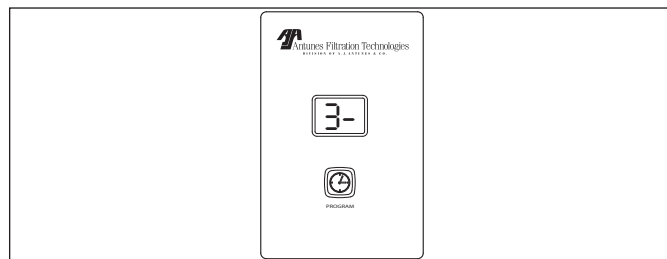

Figure 11. Time display for Fi Mode (30 Minutes)
3. To make a change, press and hold the Program button to scroll through settings - release the button at desired setting (Figure 11).